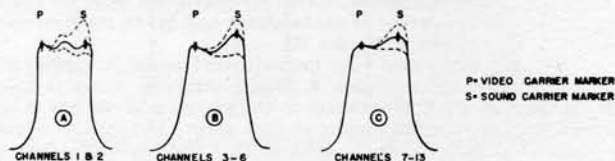

Fig. 13. R-f Alignment Curves
10. **R-f Coil Alignment**—The r-f coil assembly is designed for stable, band-pass operation and under normal conditions will seldom require adjustment. In cases where it is definitely known that alignment is necessary (such as when the present coil is damaged and has been changed), do not attempt the adjustment unless suitable equipment is available. When tubes V1 or V2 are changed, alignment of r-f and oscillator may be necessary especially on the higher frequency bands. The minimum requirements for correct r-f alignment is to provide the correct band width, and for the response curve to be centered within the limit frequencies shown for each of the individual bands, as shown in Figure 13. It is also necessary that the curve be adjusted for maximum amplitude consistent with correct band width. To provide these minimum requirements, the r-f coils are over-coupled in a very similar manner to the video i-f transformers. However, instead of adjusting capacity to tune the coils, the inductance is varied by moving a few turns. Coupling is also